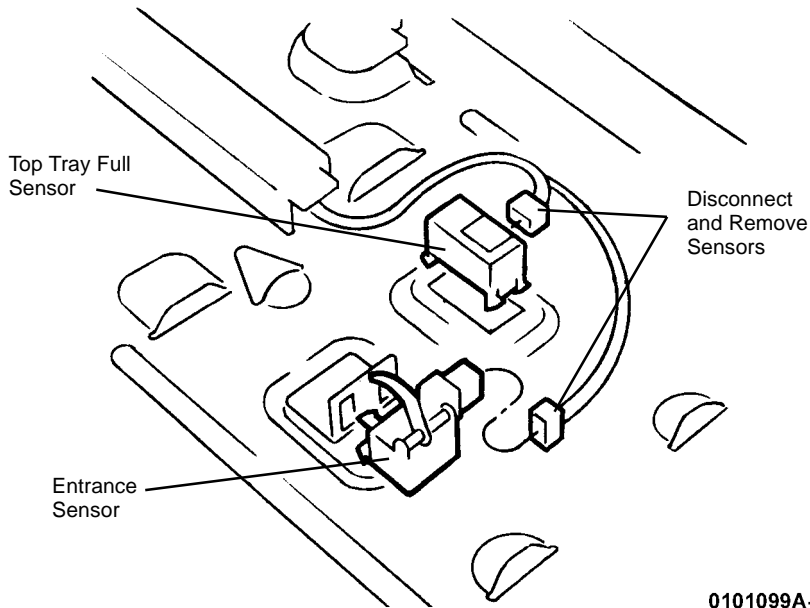

Figure 2 Removing Entrance Sensor and Top Tray Full Sensor
4. Lift the Finisher from the Rack (Figure 2).